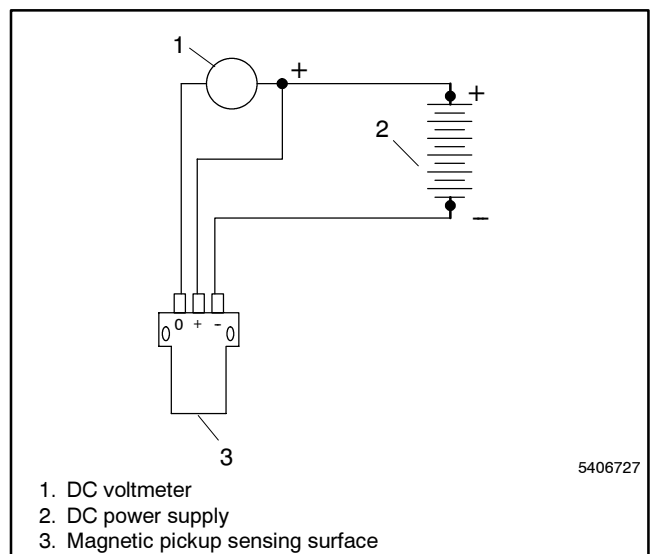

Figure 5-51 Magnetic Pickup Test
1. Remove magnetic pickup from generator adapter. Connect magnetic pickup, voltmeter, and DC voltage source as shown in Figure 5-51.